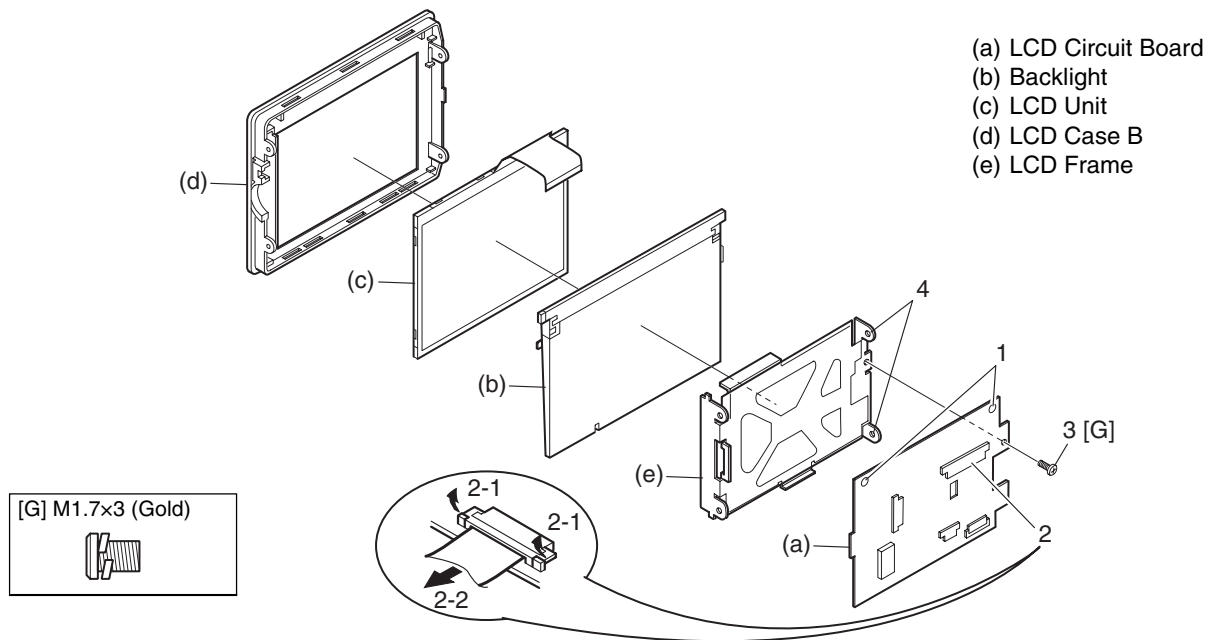

Fig. 5-3-15 LCD Circuit Board, Backlight, LCD Unit , and LCD Case B
(13) LCD Circuit Board, Backlight, LCD Unit , and LCD Case B (Fig. 5-3-15)